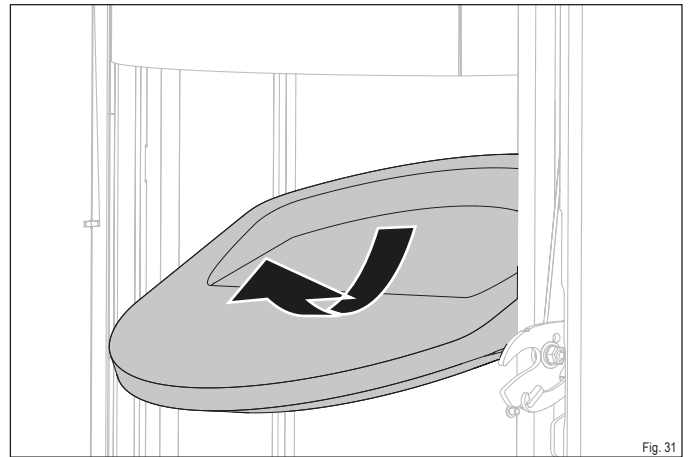

Fig. 31
- ▶ Carefully remove the firebrick from the retainer as shown (Fig. 31).